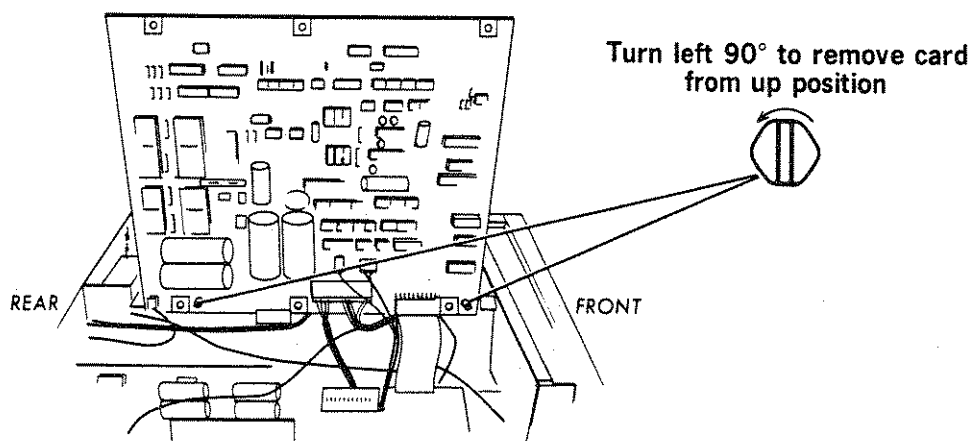

Figure 7-24. Disconnecting the Low Voltage Circuit Assembly from the Supports
- STEP 1. Rotate the screw heads on each of the Card Service Supports 90° (1/4 turn) counter-clockwise. Carefully remove the circuit assembly from the supports by pulling the assembly away from the supports while pushing the supports through the circuit assembly. Refer to Figure 7-24.